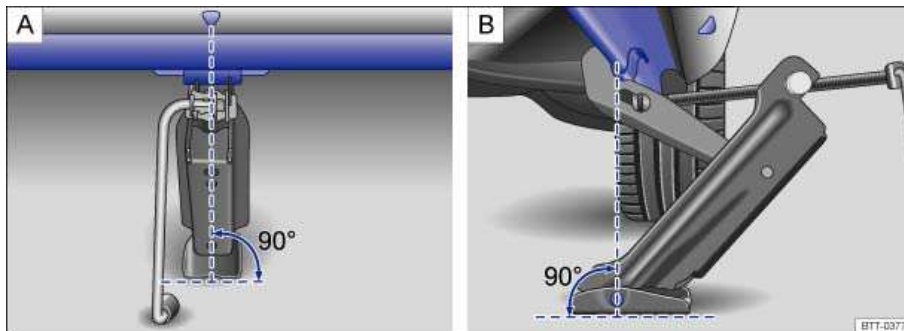

Fig. 192 Jack in position at the left rear lift point.
9. Position the jack so that its base is directly underneath the lift point ⇒ fig. 192, making sure that the entire base of the jack rests securely on the ground.
10. Align the jack and wind up the jack claw at the same time, until the claw cradles the vertical rib underneath the vehicle ⇒ fig. 192.
- Position the jack only at the described vehicle lift points. Before you raise your vehicle, always make sure the jack claw properly grips the vertical rib under the sill so that the jack does not slip off when you are raising the vehicle ⇒ fig. 192.